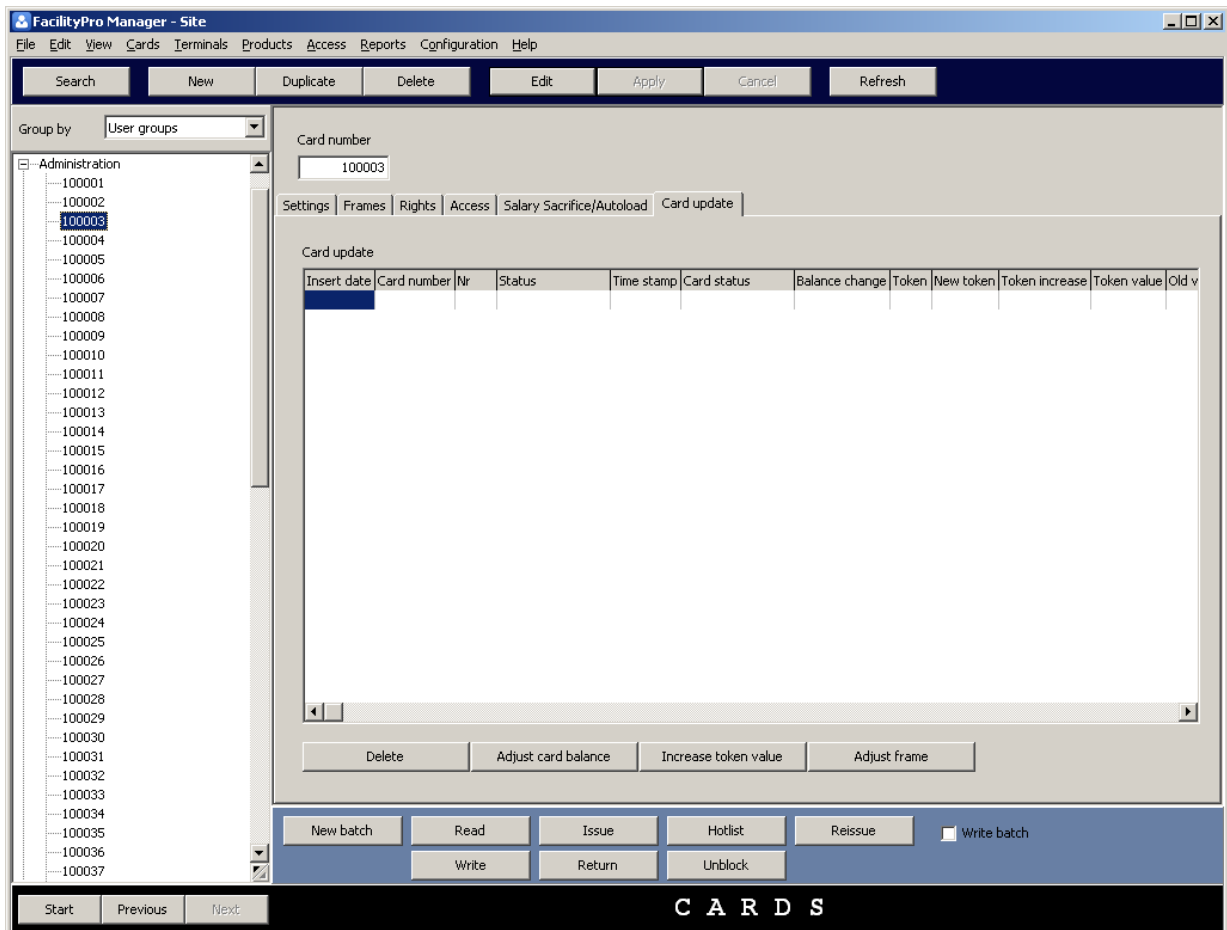

Figure 3-7 The tab 'Card update' of the cards data screen
4. Click the tab 'Card update'. You will see the tab 'Card update' (Figure 3-7).